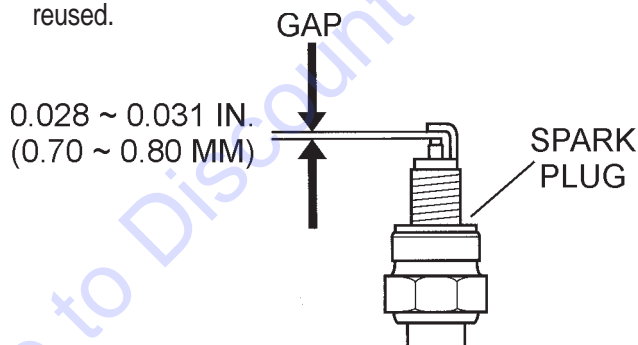

Figure 13. Spark Plug
2. For Honda engines adjust the spark gap (Figure 13) to 0.028~0.031 inch (0.70~0.78 mm). For Vanguard engines adjust spark gap to 0.030 inch (76 mm). Both engines have electronic ignition, which requires no adjustments. Replace spark plug every 300 hours.